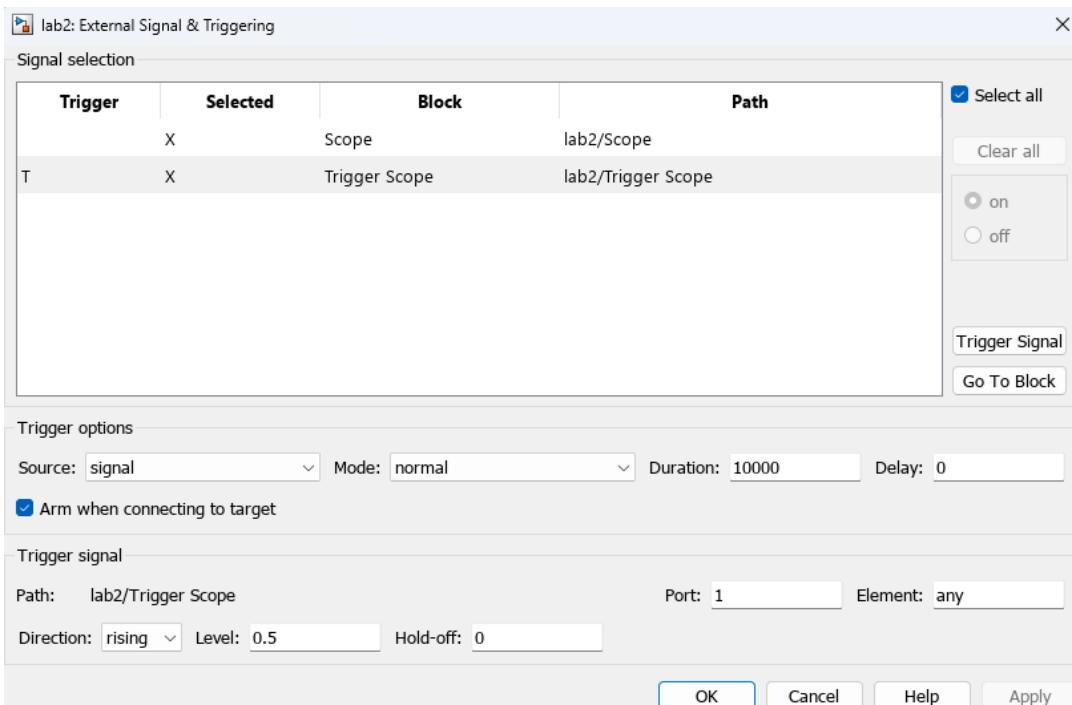

Figure 11: Configuring the Trigger Signal
7. In the TRIGGER area make sure that SOURCE = SIGNAL, MODE = NORMAL, DELAY = 0, and set DURATION = T_f/T_s . The duration is the number of samples allotted in memory for each signal being logged. If we have a simulation time of $T_f = 10$ seconds and our sampling time $T_s = 0.001$, then $10/0.001 = 10,000$ samples. If you actually run the model longer than T_f , then the data in memory will be overwritten when T_f/T_s samples have passed. Check Figure 11.